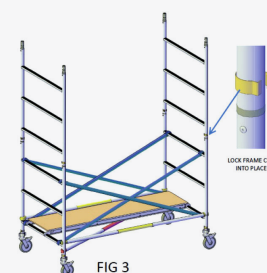

FIG 3
- To assist with erection, install one platform temporarily approximately 0.5m from the ground between both end frames – See Fig. 3.
- Attach another frame on top of each of the frames already at base level to achieve a nominal 2.0m height. Lock the frame clips into place and install the diagonal braces (blue) – See Fig. 3.